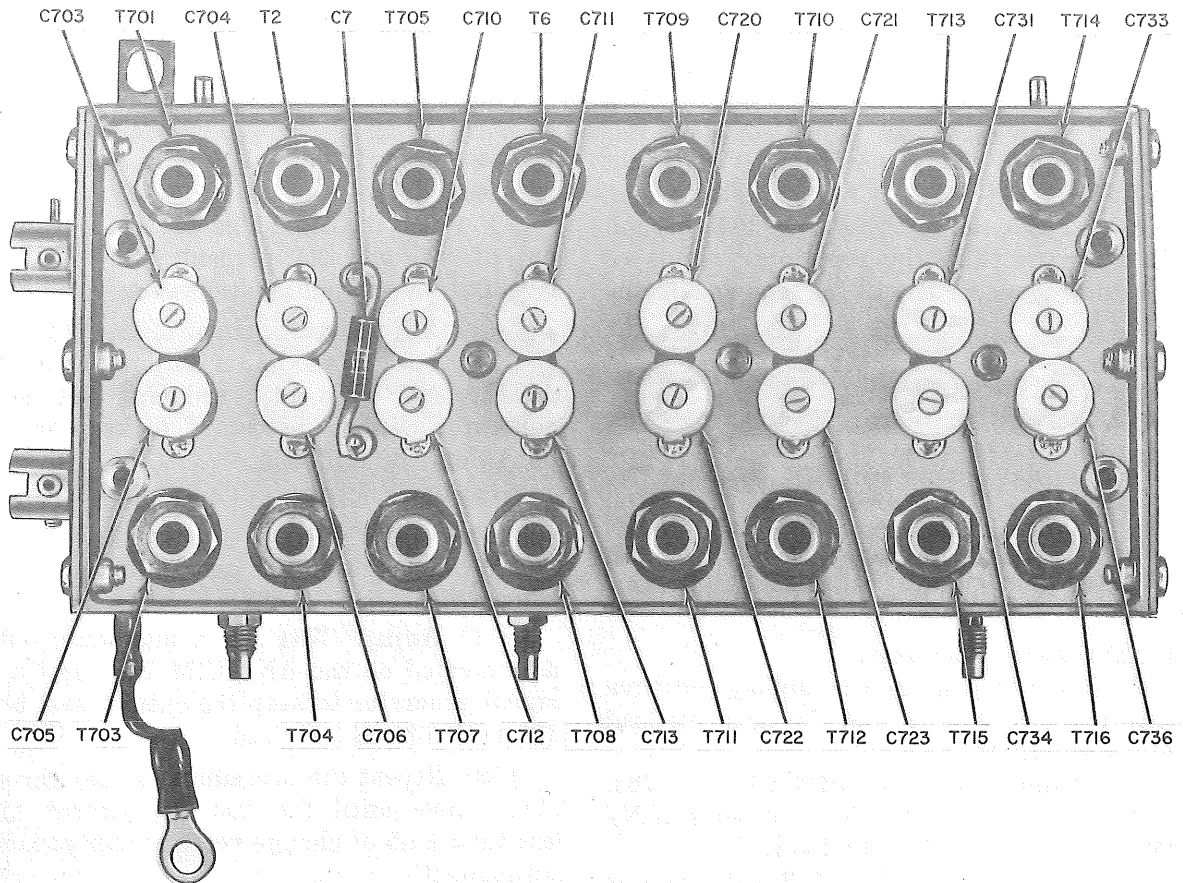

Figure 3-35. RF module, bottom view.
(7) Set C701 to the clockwise stop, maximum capacity (plates meshed).
(8) Set switch S1 to band 1 (completely counterclockwise).
(9) Set the AN/GRM-50 for an output of 2.001 mc \pm 1 percent.
(10) Adjust the AN/GRM-50 until an output is observed at pin 2 of relay K2.
(11) Adjust the 5-kilohm potentiometer for a maximum output as indicated on the AN/URM-145, reducing the AN/GRM-50 output level below 100 millivolts rms.
(12) Tune transformers T701, T705, and T709 (figs 3-35 and 3-36) for a maximum indication on the AN/URM-145. As peaking proceeds, reduce the AN/GRM-50 level as necessary to keep the output level below 100 mv.
(13) Rotate capacitor C701 counterclockwise to minimum capacity (plates out of mesh).
(14) Set the AN/GRM-50 to 3.001 mc \pm 1 percent.
(15) Tune capacitors C703, C710, and C720 for a maximum indication on the AN/URM-145. Adjust the AN/GRM-50 as required to keep the output below 100 mv.
(16) Repeat the procedures in (7) through (15) above until the last adjustment gives
(7) Set the signal generator for an output of 3.75 mc \pm 1 percent, and adjust the level until an output is observed at pin 3 of A1.
(8) Adjust transformer T713 (figs 3-35 and 3-36) for a maximum output as indicated on the AN/URM-145, reducing the signal generator level as necessary to keep the output below 100 millivolts.
(9) Set C701 to minimum capacity (plates out of mesh).
(10) Set the signal generator to 5.75 mc \pm 1 percent.
(11) Adjust C731 for a maximum output as indicated on the AN/URM-145; adjust the signal generator to keep the output level below 100 millivolts as required.
(12) Repeat the procedures in (8) through (11) above until the last adjustment gives less than 1 db of change per trimmer capacitor adjustment.
(13) Repeat the procedures in (6) through (12) above to align the remaining bands in the synthesizer circuit as shown in the chart below.